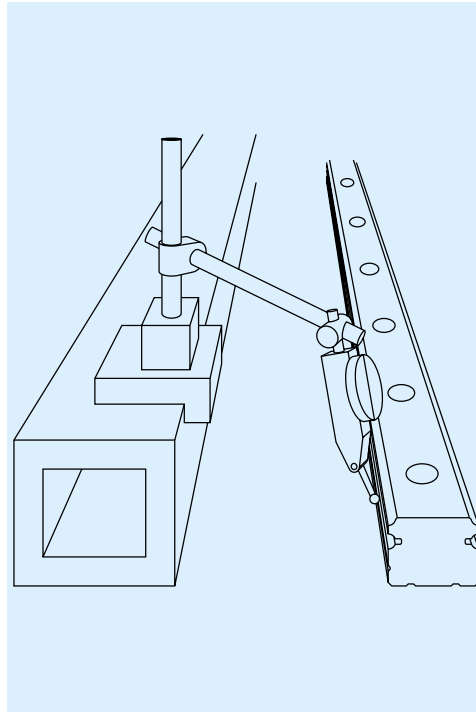

Fig. II-9-16
- ① Carefully place the reference side rail on the bed on its mounting face. Temporarily tighten the bolts. Do not tighten the bolts all the way, but stop tightening when the bolt enters halfway into the bolt hole. This makes the proceeding steps easier.
- ② Place the straight edge almost parallel to the reference side rail which is temporarily secured by bolts. (At the both ends of the rail and straight edge, the distance between them shall be almost same.)
- ③ Once the position of the straight edge is determined, use it as the reference. With a dial gauge, check parallelism with the rail, and adjust the rail if necessary. Then tighten the bolts. Ensure that the straight edge does not move while the bolts are being tightened. This procedure should be carried out starting from one end of the rail to the other end. (Fig. II-9-16).
- ④ Finally tighten all bolts with specified torque.
- ⑤ There are two ways for installation of adjusting side rail: